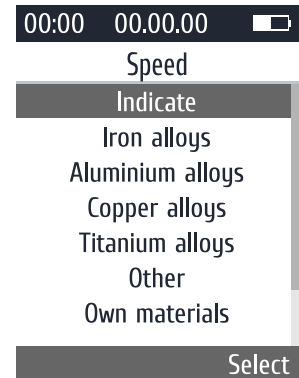
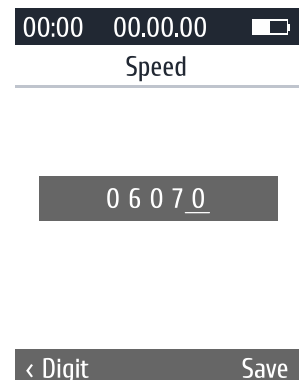

Figure 9
Figure 10
**4.3.1.1** If the grade of the material and the speed of ultrasound in it are known, select the "Indicate" tab (fig.9) and set the required speed (fig.10): by pressing the button  on the left (<Digit), select the cell (underlined) and use the buttons   to set the required values. To save the set speed, press the button  on the right (Save).